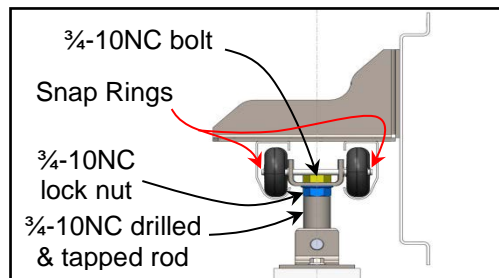

Figure 26
3. Inspect the door hanger trolley assemblies for any loose or missing hardware. Tighten or replace hardware as required. (See Figure 26)